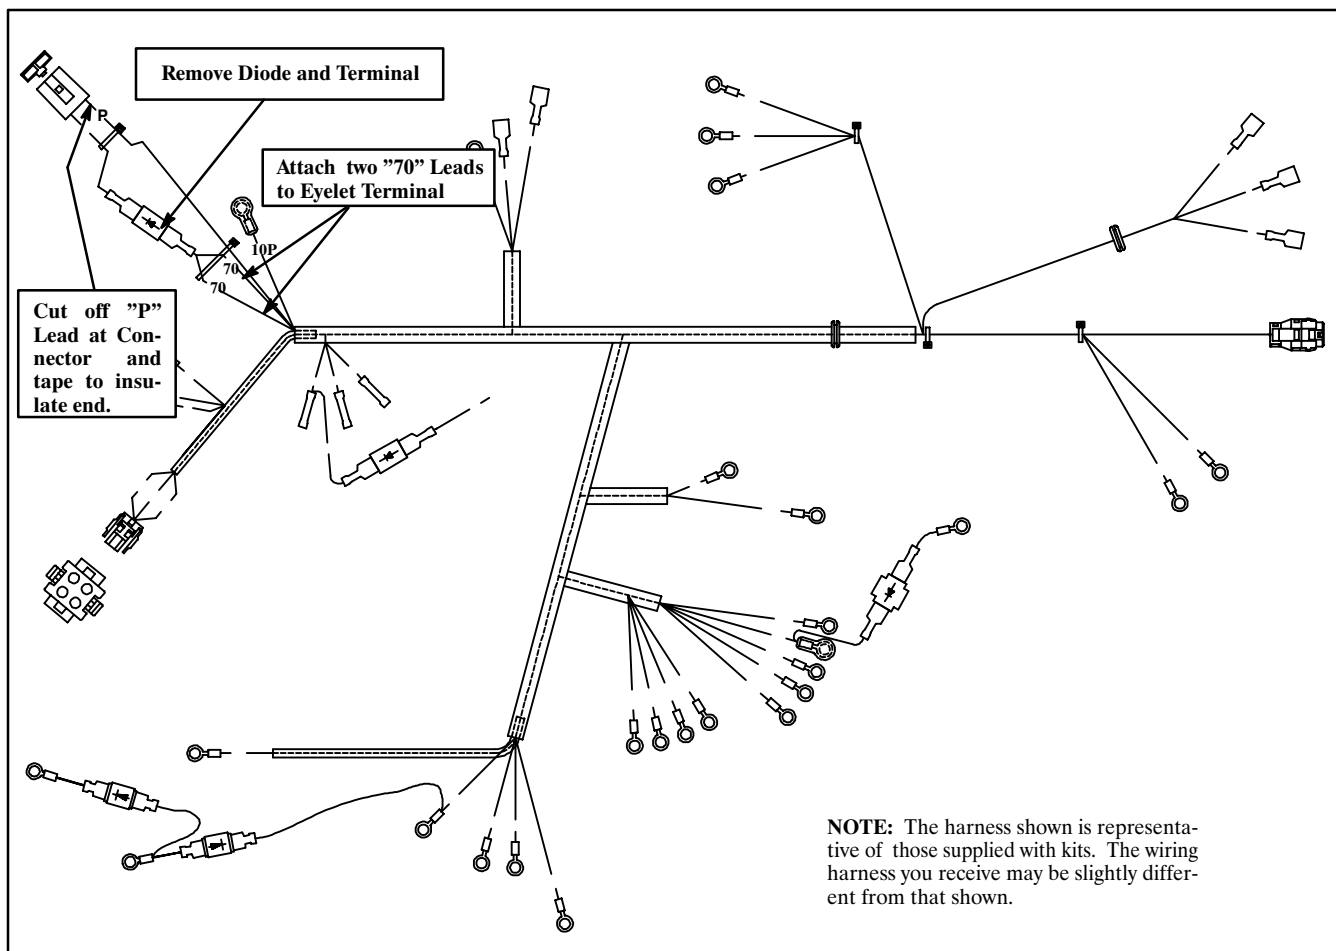

Figure 1. Engine Wiring Harness Modification (sets with Motorola/Prestolite Battery Chargers Only)
2. **Steps 2–4 apply only to 20–180ROZJ generators equipped with Motorola/Prestolite battery–charging alternators.** Using a wire cutter, remove diode assembly and terminal from harness "70" leads that would connect to alternator. See Figure 1.